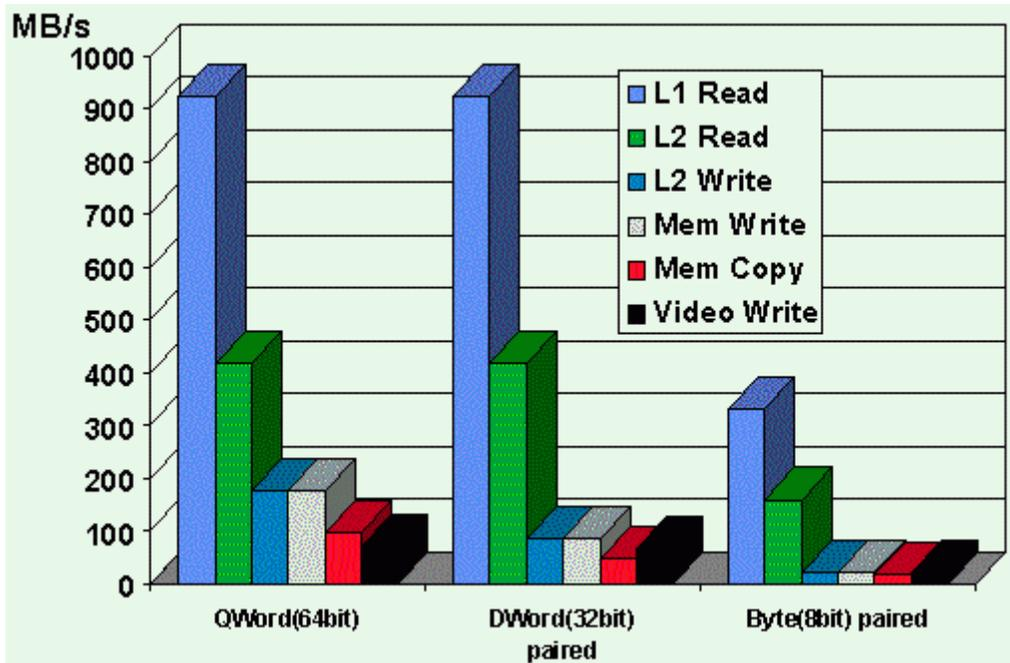

Figure 5: Measured Memory and Graphics Bandwidth for Pentium(R) Processor 166MHz 82430HX systems for various types of access
Figure 5 shows the huge variations in memory and graphics bandwidth, depending on how carefully the data are arranged and accessed. The measurements are sustained rates for very small code loops, on a Pentium(R) processor 166MHz system with: